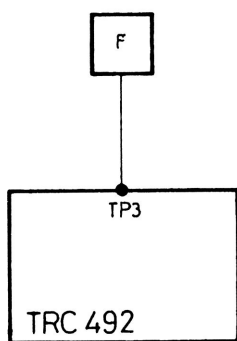

Fig. 5.2.2.8
5.2.2.7 - Proteccion contra la banda lateral inversa (fig. 5.2.2.6)
5.2.2.8 - Proteccion contra la frecuencia intermediara (fig. 5.2.2.6)
5.2.2.10 - Correcteur de fréquence (fig. 5.2.2.8)
5.2.2.10 - Frequency corrector (fig. 5.2.2.8)
- Connect a frequency meter on TP 3 (cable ref 327 947) Put the knob ϕ on black stop on the left then on the right and read the frequencies. These values must border the nominal value (operating frequency + 15 MHz) and keep off by 250 Hz at least.